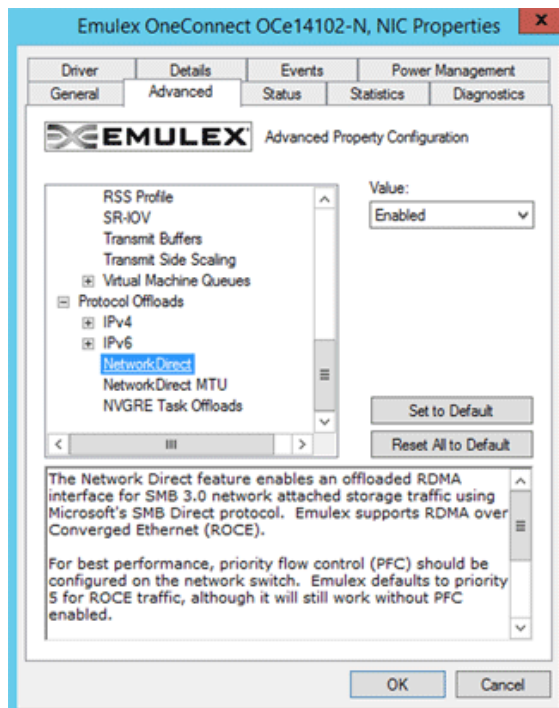

Figure 3-8 Advanced Property Configuration - RoCE-Enabled
- In the Advanced tab of the Network Property page, ensure that NetworkDirect is enabled (see Figure 3-8).